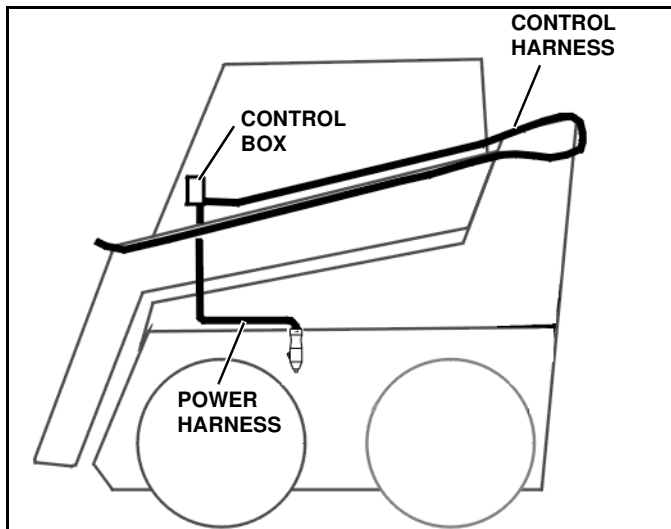

Figure 2-13
2. Connect the power adapter to the in-cab power receptacle. The power cable may need to be wrapped around the back of the seat. (See Figure 2-13)